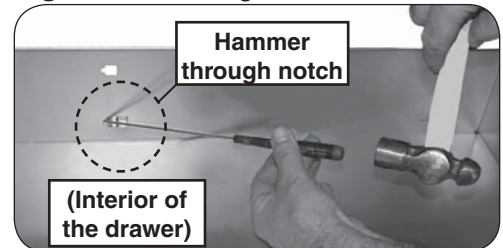

Fig. 3-3 Release tracking from drawer
2. From the interior of the drawer, use a flat head screwdriver and a hammer to tap the runners free (through the notches). See Fig. 3-3.